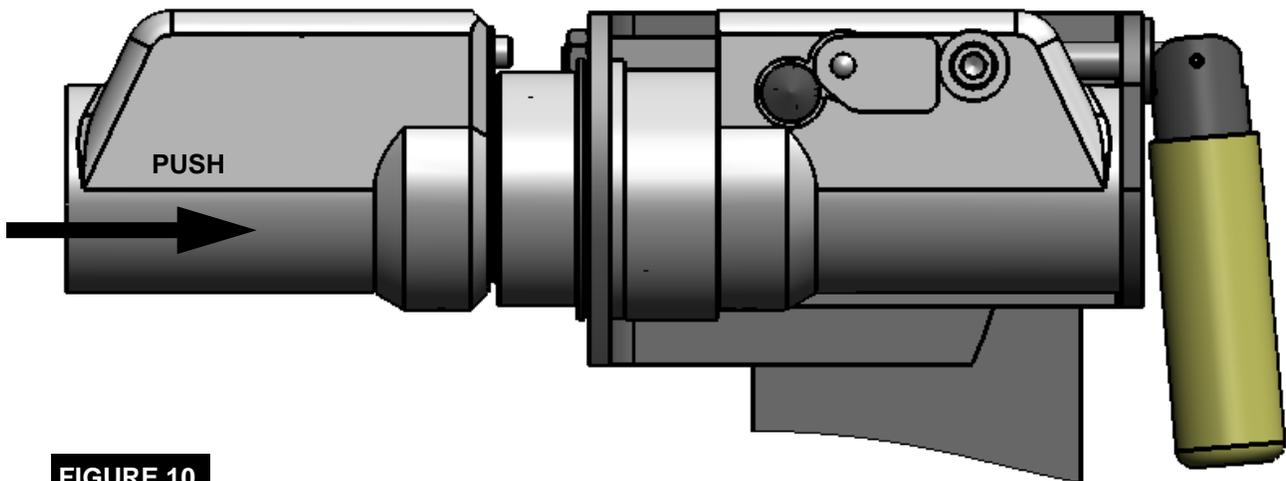

FIGURE 10
7. Screw the handle in until it's snug with washer/bracket to engage the handle with the bracket. Actuate cam action by pivoting the bracket handle 80-90 degrees as shown in Figure 10. Hold in this position and push the Male Plug in, which will allow the Male Plug to move to its operating position and the Latch Balls to engage.